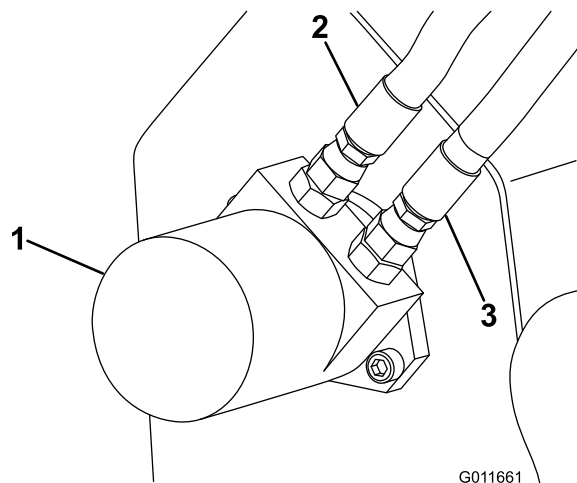

Figure 20
6. Connect the left hose to the lower port on the motor (Figure 20).
7. Connect the right hose to the upper port on the motor (Figure 20).